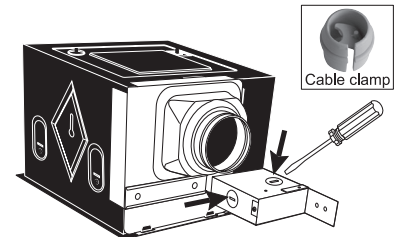

Fig. 8.1
- 1- Remove wiring compartment cover and pry out one of the knock-outs . The cable clamp (included) must be inserted through the knock-out hole. (Fig. 8.1)